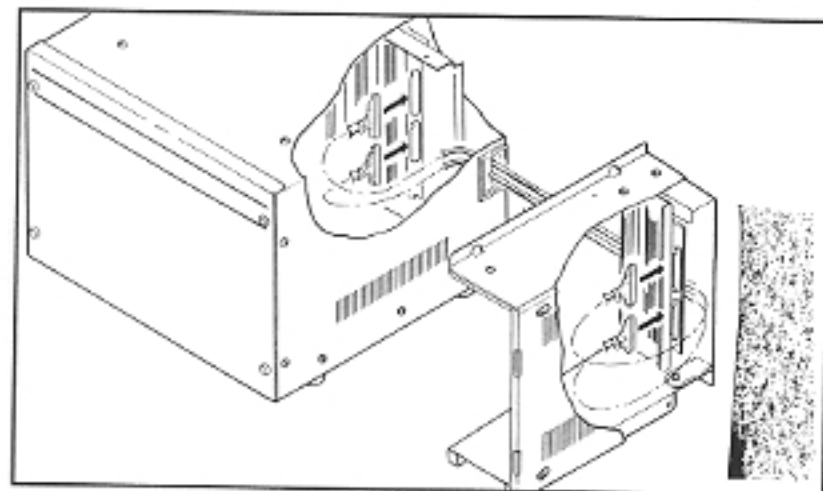

FIGURE 5—KBXU CABLES
- 5) See Figure 5, and connect the blue cable plug to the jack on the MKSU's motherboard labeled **SMU**, and the yellow cable plug to the jack labeled **OPU**.
- 6) Start two screws in the holes on the upper right-hand side of the MKSU. Slide the KBXU top cover (C) down over the screws and secure it to the KBXU back panel (A) with a screw. Tighten all three screws.
- 8) Slide the side panel (D) into place with the four screws protruding through the appropriate keyholes. Tighten the screws.
- 11) Slide the front panel (E) into place, making sure the two tabs are in their matching slots in the side panel and the screws are protruding through their keyholes. Tighten the screws.